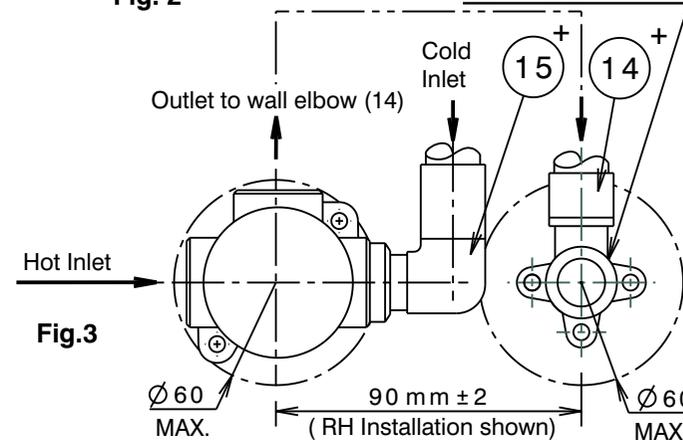

Fig. 3
**Note :** A suitable elbow fitting (15+) should be fitted to the inlet connection adjacent to the outlet (13+) (Fig.3). Check all connections for leaks.